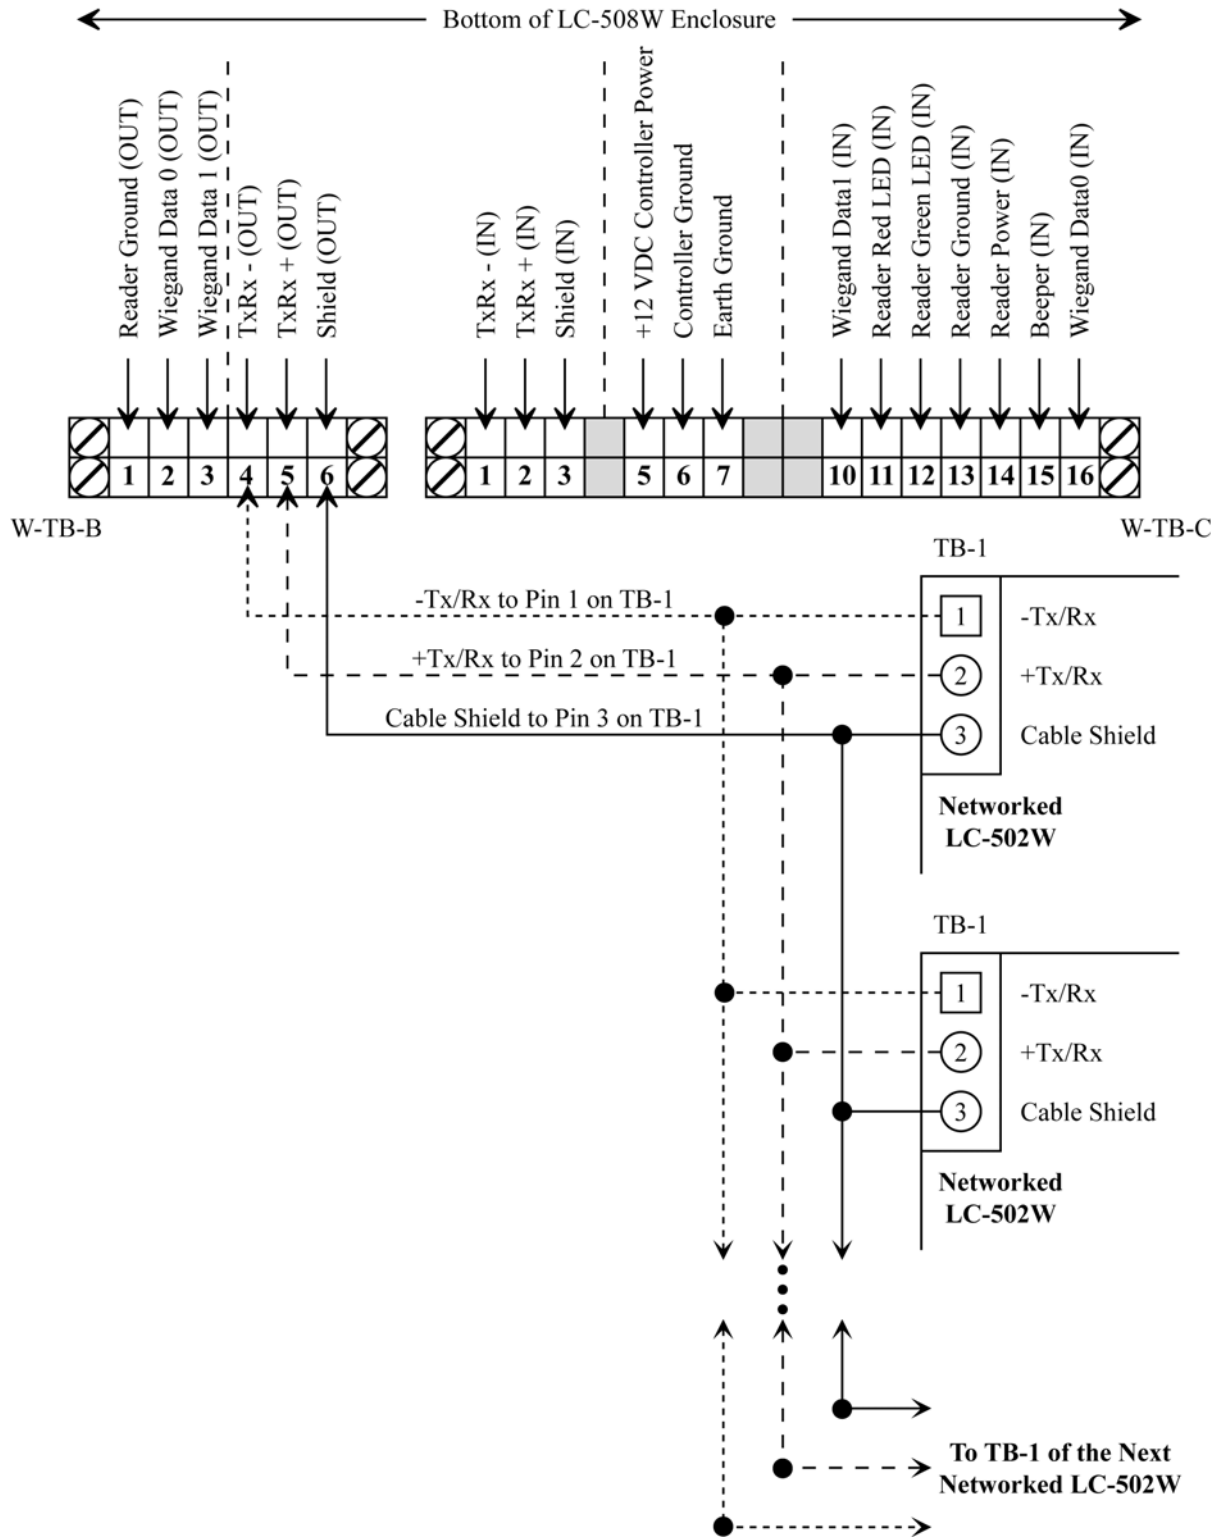

Figure 13: LC-508W to LC-502W Panel Network Communication Wiring
3. Daisy-chain the RS-485 TxRx+, TxRx-, and Shield network communication connections from the W-TB-B terminal strip on the LC-508W to each of the LC-502W panels. Make the connections per the information in Table 8 and Figure 13 on page 20.